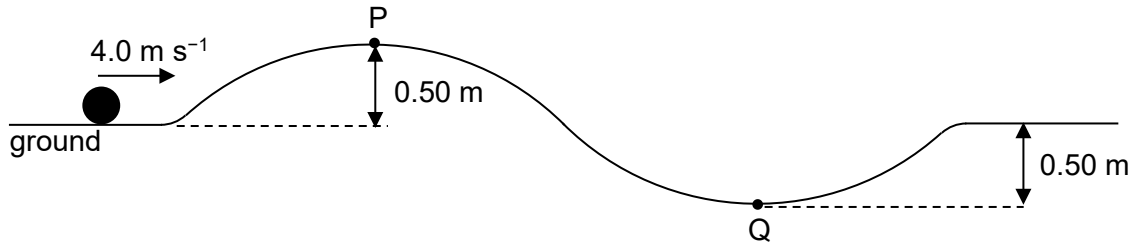

Fig. 6.1
- 6 A ball is initially travelling along a smooth horizontal ground with a speed of 4.0 m s^{-1} as shown in Fig. 6.1.